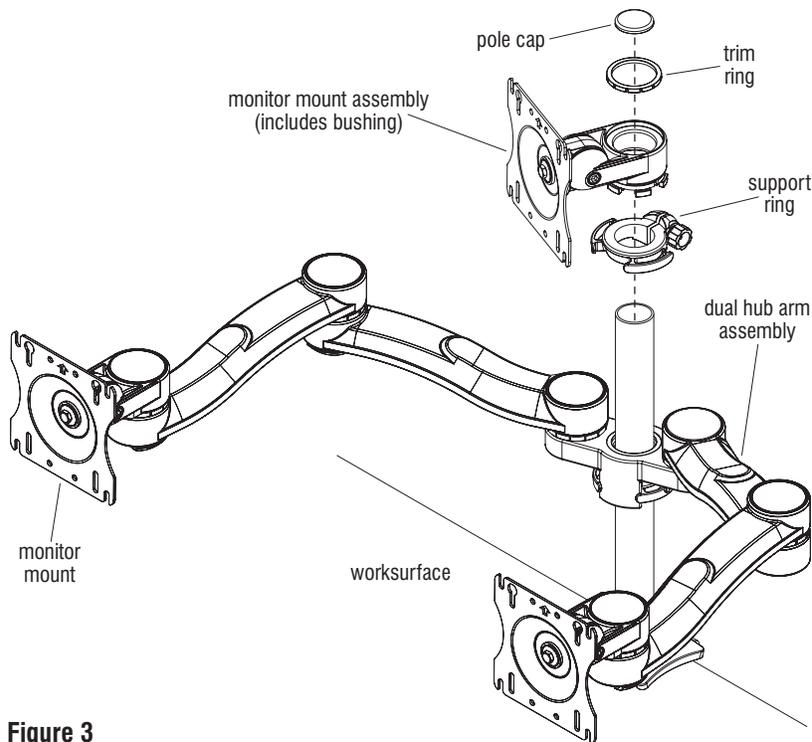

Figure 3
7. For optional third screen, assemble support ring to the pole at desired height. Mount monitor assembly to pole on top of the support ring (Figure 3).
8. Mount trim ring on top of the monitor mount assembly followed by inserting the pole cap on top of the pole assembly (Figure 3).